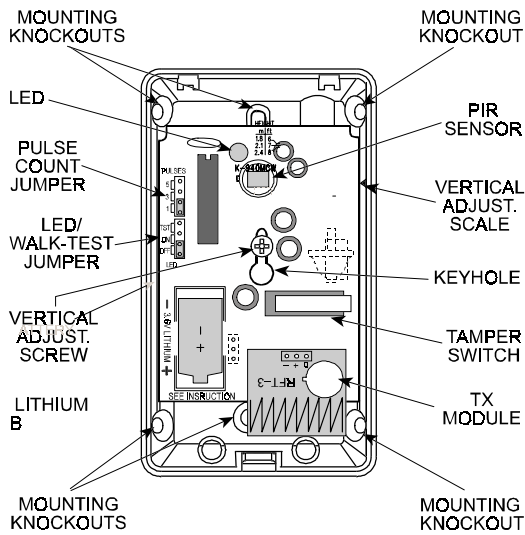

Figure 2. Components Layout
A. Insert the battery into the battery clip - observe polarity (see Figure 2).
Note: For wall surface mounting, use the two elongated knockouts at the middle of the base. For corner mounting, use two diagonally opposite knockouts at the angled sides of the base (see Figure 2).